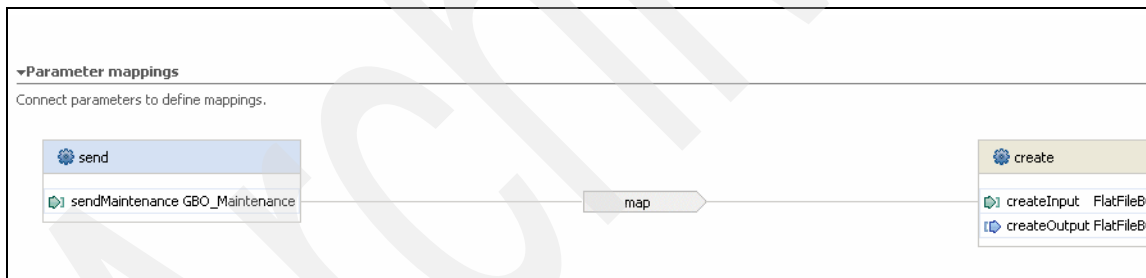

Figure 2-19 Create parameter mapping
- Create parameter mapping between the GBO\_Maintenance and FlatFileBG data types interfaces by dragging a connection between the two (Figure 2-19).